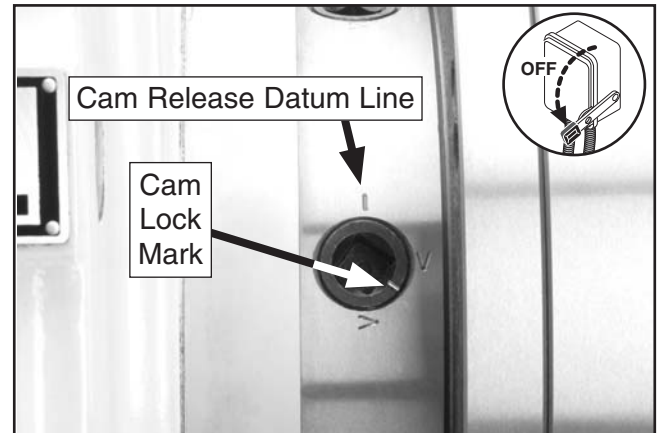

Figure 16. Cam and lock marks.
The chucks and faceplate have a D-8 Camlock mount. Please note that there are lines stamped into the cam and on the chuck body. A chuck key is used to turn the locking cams (**Figure 16**) to secure/unsecure the chuck/faceplate.
3. Turn a cam with the chuck key until the cam lock mark aligns with the cam release datum line shown in **Figure 16**.